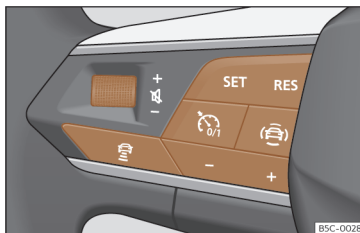

Fig. 154 On the multifunction steering wheel: buttons to operate the ACC
Your vehicle has ACC if it has a configuration menu in the infotainment system»» page 86 and if it has the ACC function buttons on the multifunction steering wheel»» **Fig. 154**.
- To start regulation, press the button **SET** »» Fig. 154.
To program the speed, press the + or - >>> **Fig. 154** buttons to the desired speed. The speed is adjusted at intervals of 10 km/h (5 mph).
- Press the button and then the button + or - >>> **Fig. 154**.